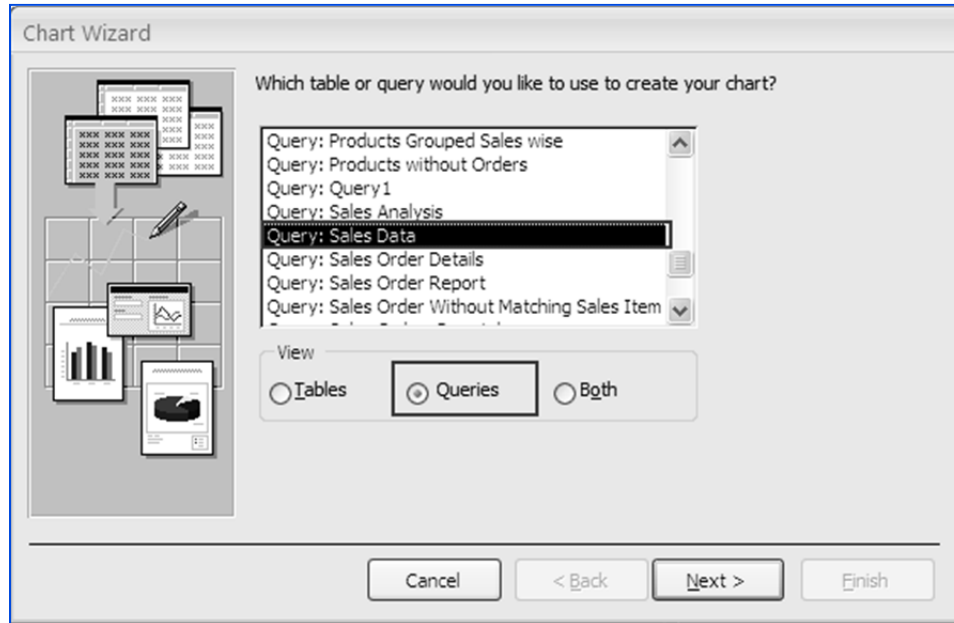

Fig. 2.5.3. Select Queries Sales Data
4. Select the *Queries* option, and select *Query: Sales Data* from the list, as indicated in Fig. 2.5.3.